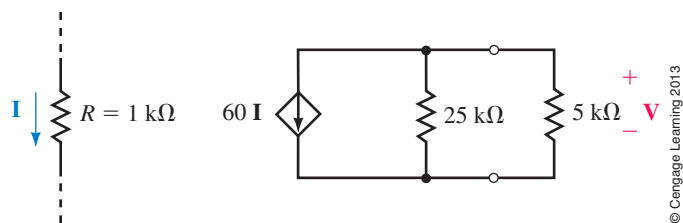

FIGURE 19–47
2. Refer to the circuit of Figure 19–48.